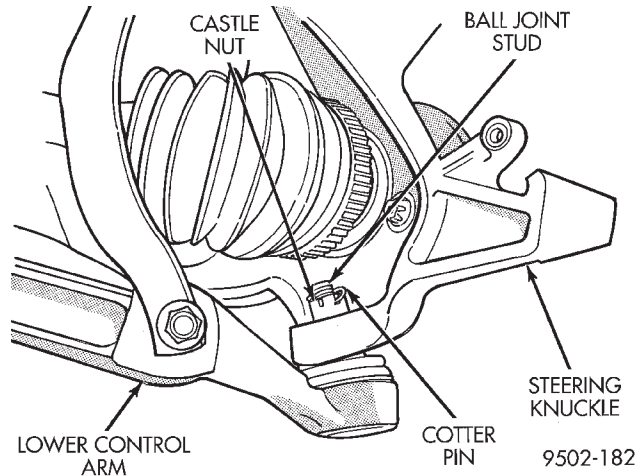
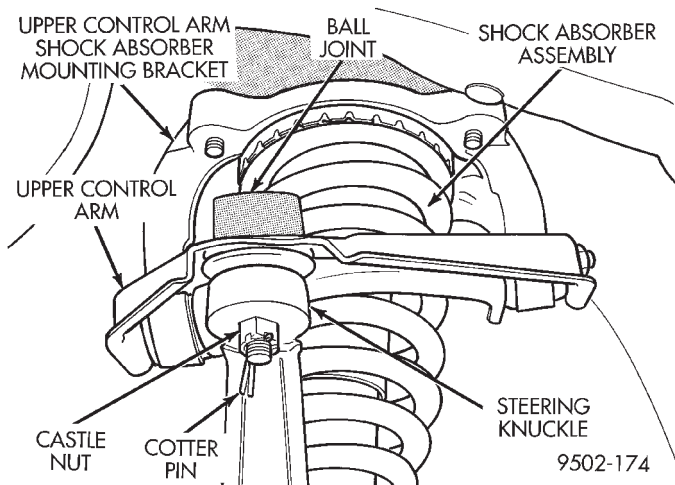

Fig. 21 Lower Ball Joint Attachment To Steering Knuckle
Fig. 24 Upper Ball Joint Attachment To Steering Knuckle
(13) Remove cotter pin and castle nut (Fig. 21) from stud of lower ball joint at the steering knuckle.
(17) Remove the cotter pin and nut (Fig. 24) from the upper ball joint stud to steering knuckle attachment.
(1) If required install a hub/bearing assembly into the steering knuckle before installing steering knuckle on vehicle. Refer to Hub And Bearing Service in this section of the service manual for proper wheel bearing removal and installation procedure.
(2) Slide drive shaft back into front hub/bearing assembly. Then install steering knuckle onto the ball joint stud in lower control arm.
(3) Install the steering knuckle to lower ball joint stud castle nut.
(4) Install upper ball joint in steering knuckle. Install the steering knuckle to upper ball joint nut. Tighten the upper ball joint castle nut (Fig. 24) to a torque of 62 N·m (45 ft. lbs.). Then, using a crowfoot and torque wrench, tighten the lower ball joint nut (Fig. 21) to a torque of 75 N·m (55 ft. lbs.). Install cotter pins in upper and lower ball joint studs.